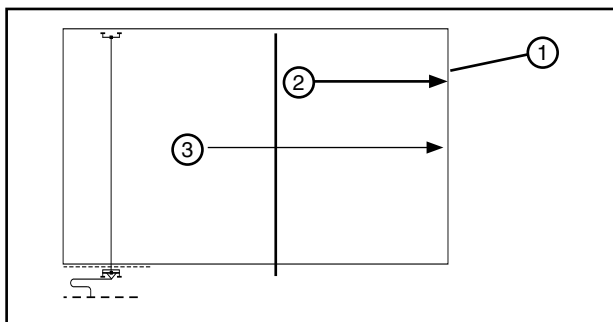

Figure 40-3 1. Field
1. The percentage timer is set at the desired application rate and the system is started at one end of the field and run wet (irrigating) to the other end of the field. See Figure 40-3.